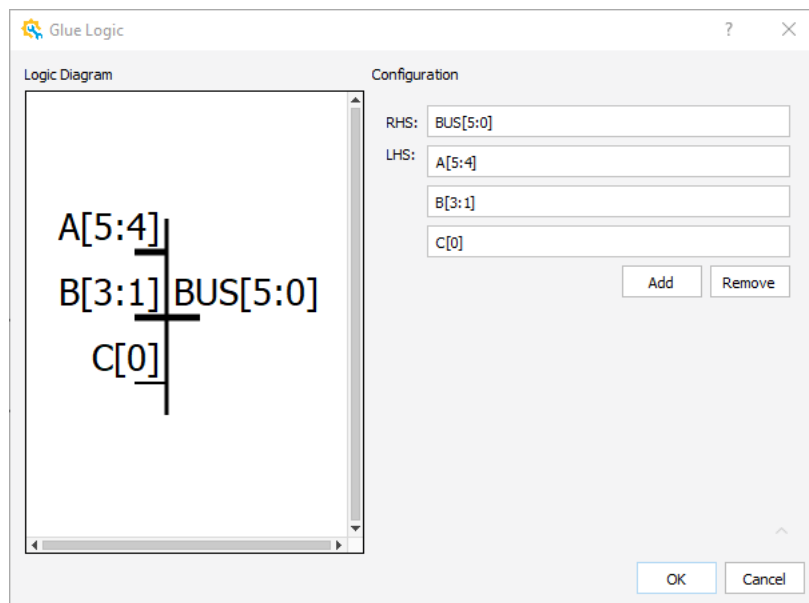

Figure 2.25. Glue Logic for Concat Module
- a. From the IP Catalog, select the **concat** module. Double-click the concat module or drag and drop concat module to the Schematic view. A Glue Logic wizard (Figure 2.25) pops up.